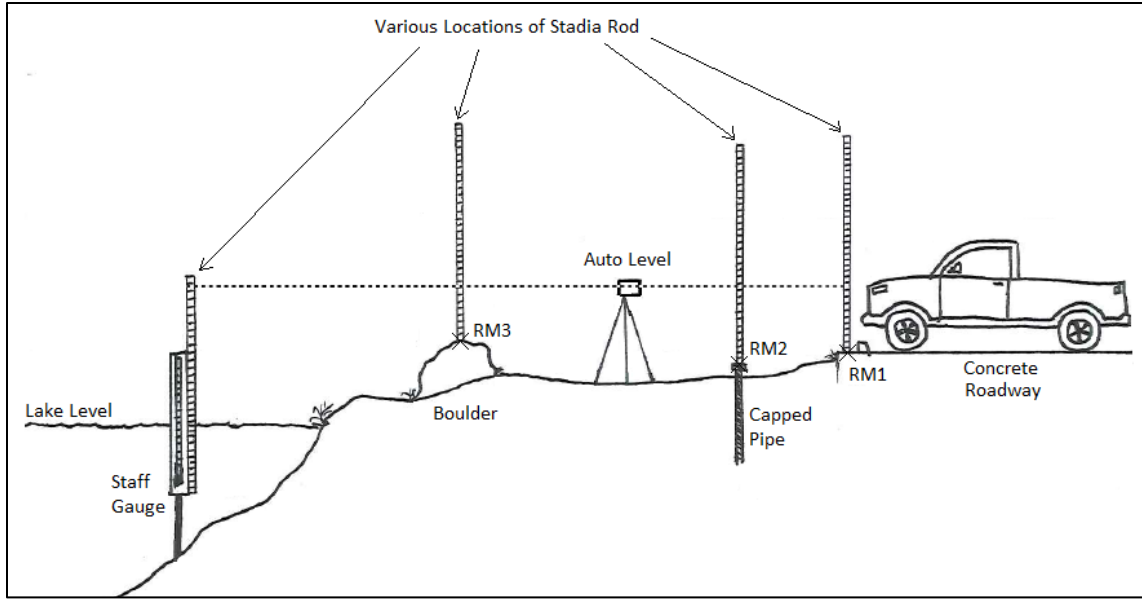

Figure 5. Various locations of reference marks with an auto level and stadia rod
3. Set up the tripod for **Survey Stage 1** in a centralized location where the staff gauge and reference marks are visible and attach the leveling instrument (Figure 5). Be sure to follow the levelling procedures for the auto level before continuing with the survey.